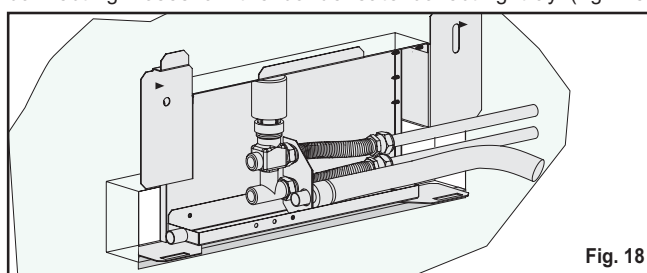

Fig. 18
- 8) Fix the bracket for securing the condensate drain hose and the connecting hoses on the condensate collecting tray (fig. 18)